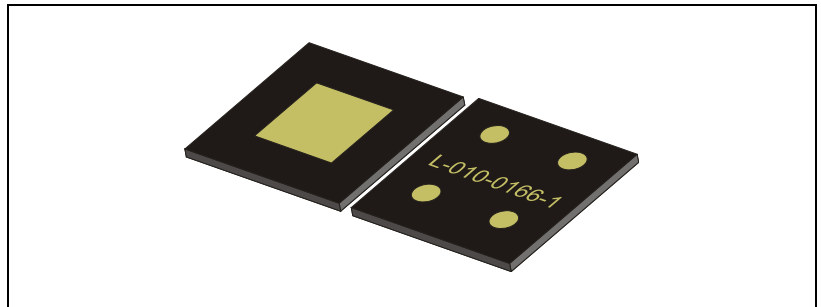

Figure 4-9. Calibration component (L-010-0166-1 HCOB ED-1)
- Calibration component (L-010-0166-1 HCOB ED-1), see Figure 4-9.
- When prompted, put the calibration component on the area calibration background (If not already done, insert the area calibration background as described in the procedure on page 4-10). The component should be placed on the calibration background with the text and four dots upwards, see Figure 4-9.